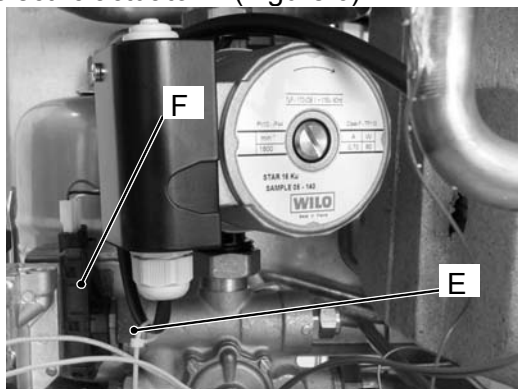

Figure 6
- 3) Remove the fixing spring E and remove the electric actuator F (Figure 6).